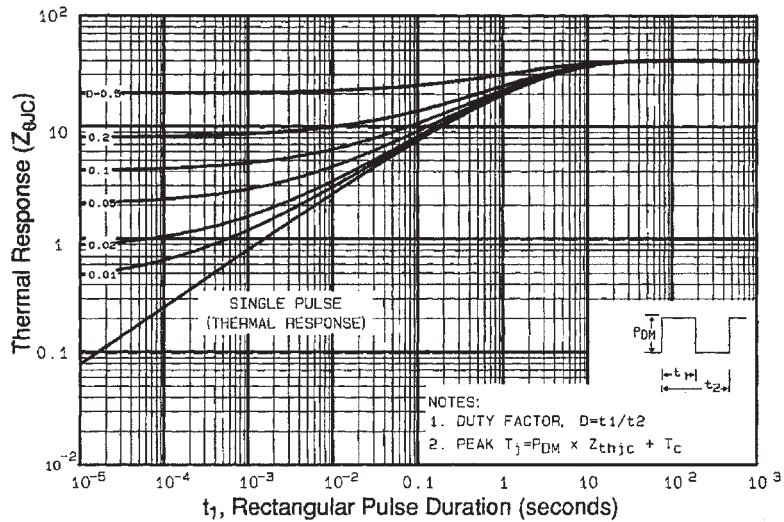

Fig 11. Maximum Effective Transient Thermal Impedance, Junction-to-Case
① Repetitive rating; pulse width limited by max. junction temperature. (See fig. 11)
② $V_{DD}=25V$, starting $T_J = 25^\circ\text{C}$, $L = 25\ \text{mH}$